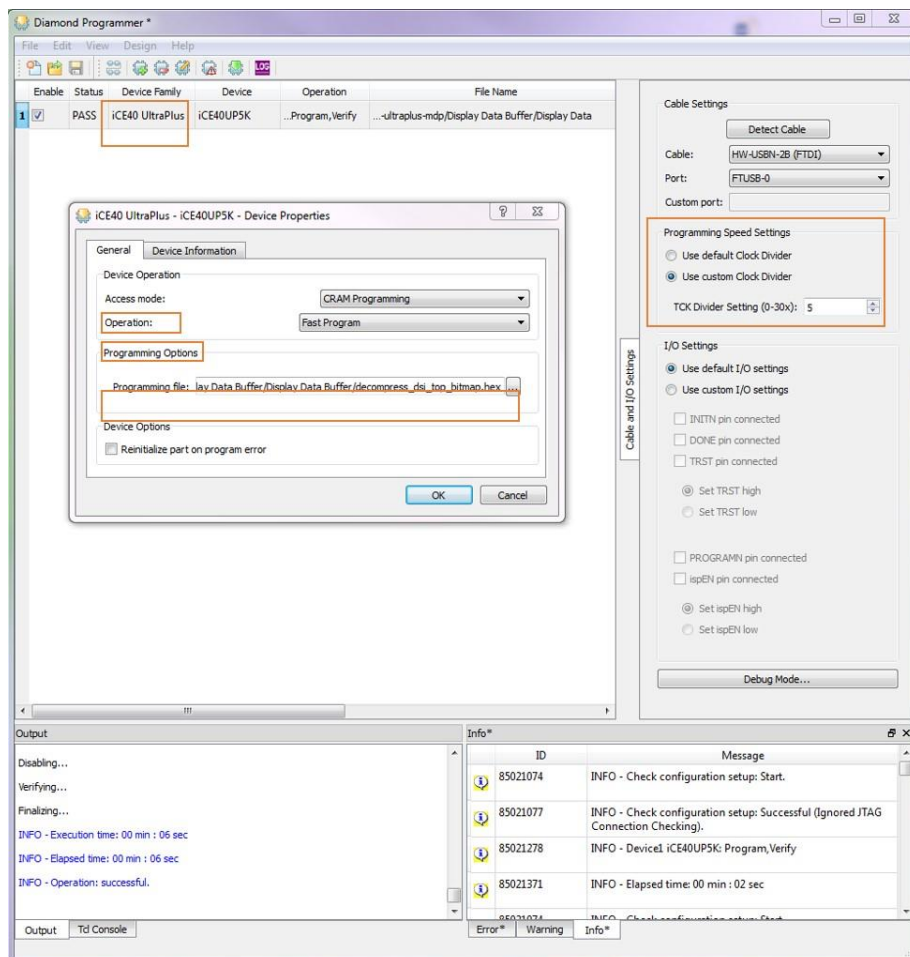

Figure 6.2. Programming iCE40 Devices on Board
6. Set **Device Family** to "iCE40 UltraPlus" and **Device** to "iCE40UP5K". Refer Figure 6.2 below.